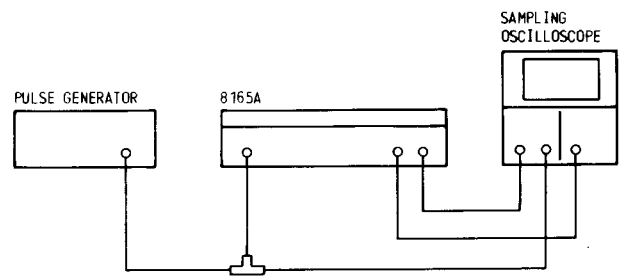

Figure 4-8. Test Setup for Burst Gate and Trigger Performance
- Connect the equipment as shown in Figure 4-8.